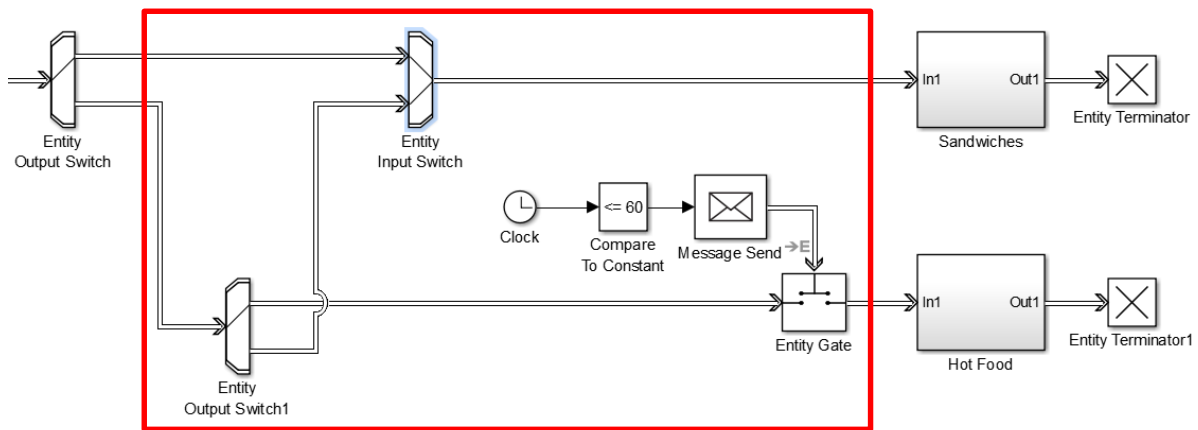

Figure 33: Exercise 8
1. Build the model shown in Figure 33 by adding the extra blocks from Table 5. Note that the Entity Generator and Simulink Function blocks have been omitted from Figure 33 but should remain in your model.